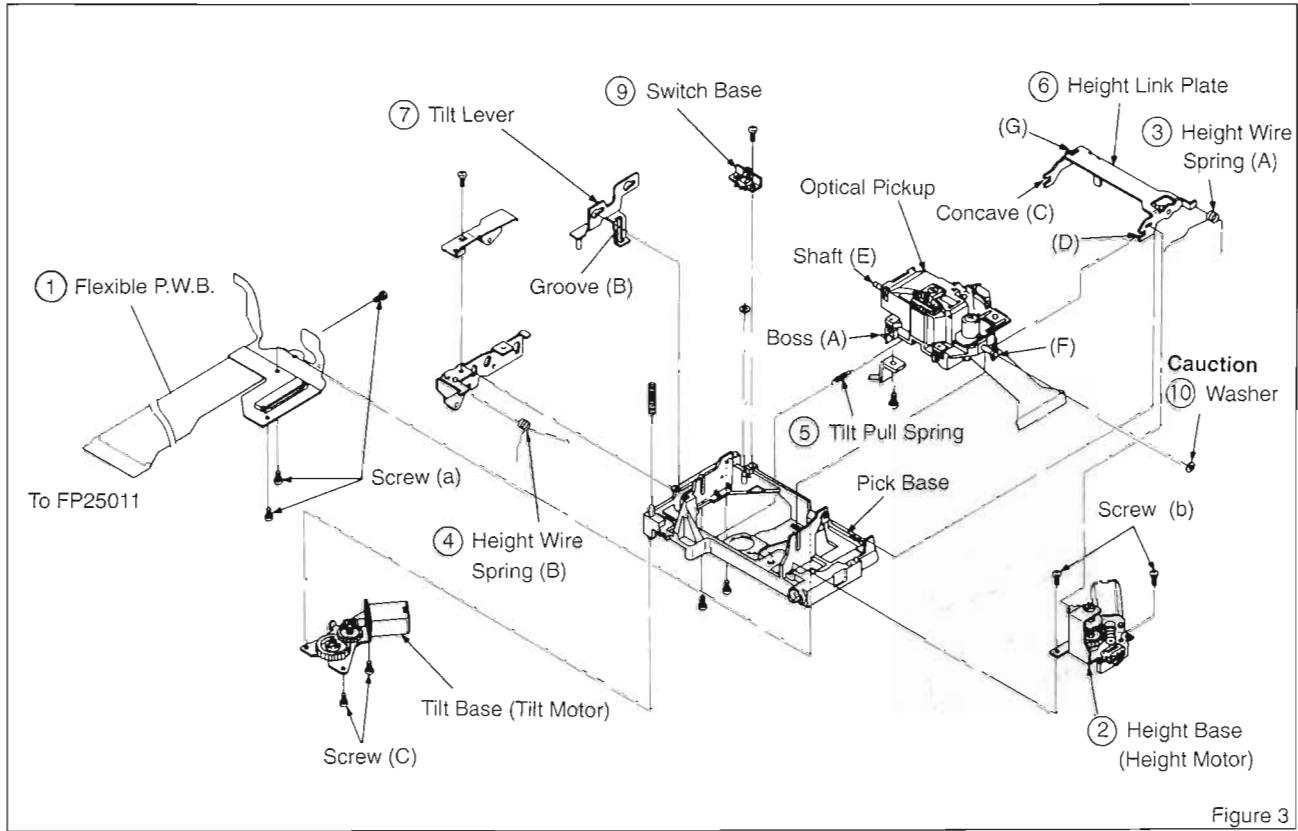

Figure 3
1. Confirm the Boss (A) of Optical Pickup is set to Tilt Lever Groove (B), and install Tilt Pull Spring (5).
2. Install Height Link Plate (6) : Slightly move Optical Pickup so that Concave (C), of Height Link Plate (6), (D) inserted to Pickup Shaft (E) and (F), and confirm (G) of Height Link Plate (6) is pushing the switch of Switch Base (9) as per Figure 3.
3. Install Height Wire Spring (B) (4).
4. Connect Optical Pickup Flexible P.W.B. (1) to relay Flexible P.W.B. and secure the P.W.B. with 3 screws (a).
5. Install Height Wire Spring (A) (3) and Height Base (2).
6. Solder relay Flexible P.W.B. to Height Base (2).